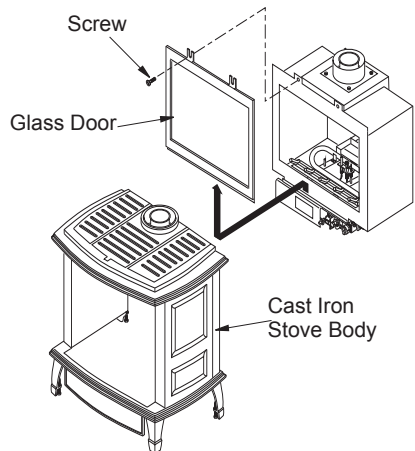

Figure 23 - Removing Glass Door from Burner System
2. Remove screws from 2 tabs at top of glass door while holding door securely keeping it from falling forward (see Figure 23).
3. Grasp door by both sides and ease it upward off of lower bracket (see Figure 23).